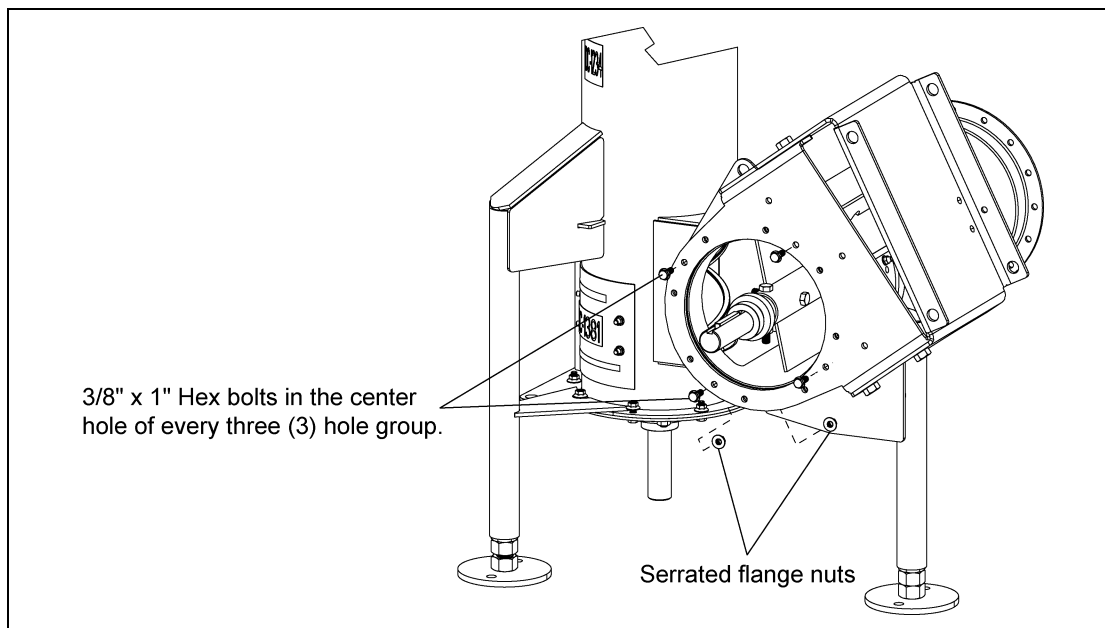

Figure 4I
3. Bolt the head plate assembly to the angle ring on the horizontal tube using four (4) 3/8" x 1" hex bolts and serrated flange nuts. Use center hole in every three (3) hole group. (See Figure 4I.)